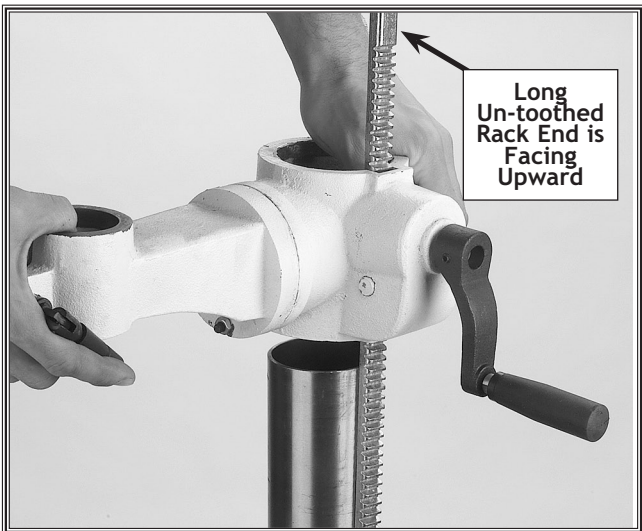

Figure 13. Rack, column, table support position.
6. Position the rack so the long un-toothed end is facing upward (see **Figure 13**).
7. Insert the rack into the table support bracket so the teeth face out and mesh with the pinion (see **Figure 13**).